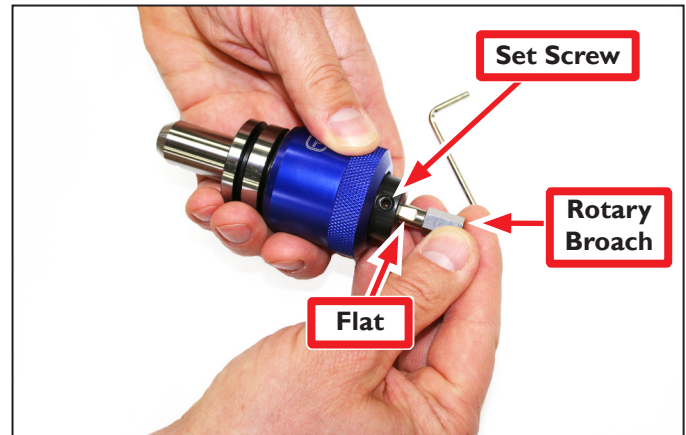

Figure 2
2. Insert a Rotary Broach into the TTS Rotary Broach Holder; align Set Screw with Flat on Rotary Broach (see **Figure 2**).